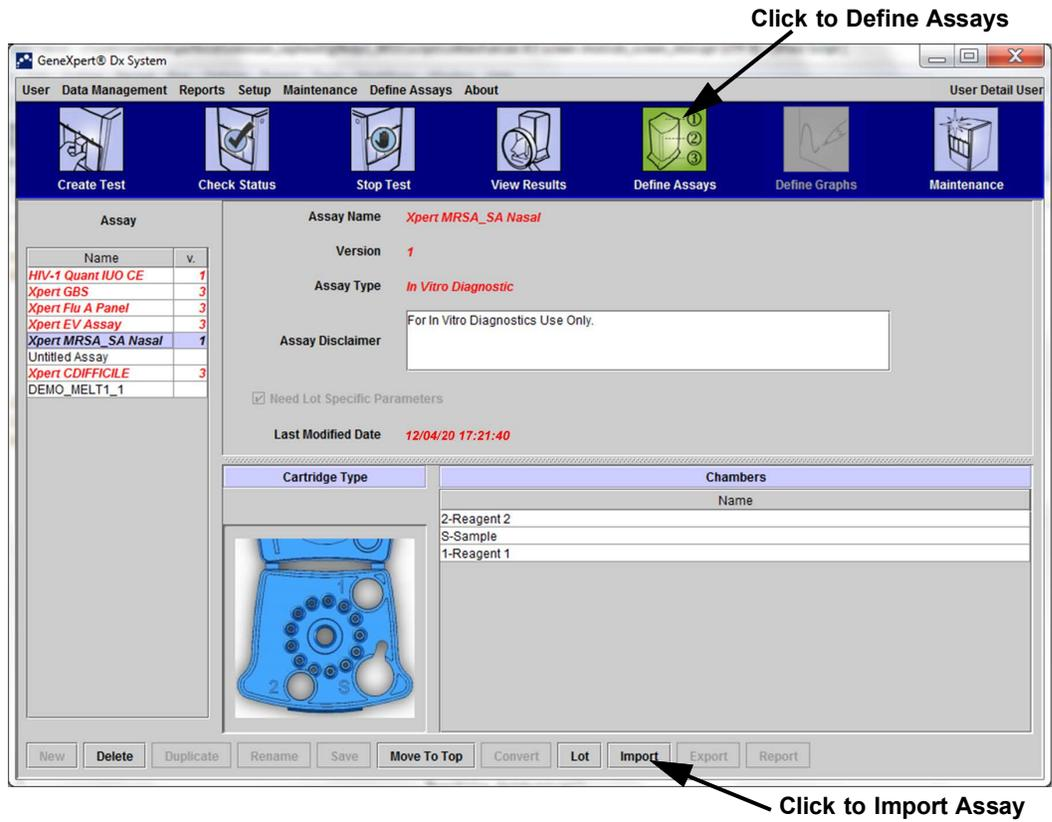
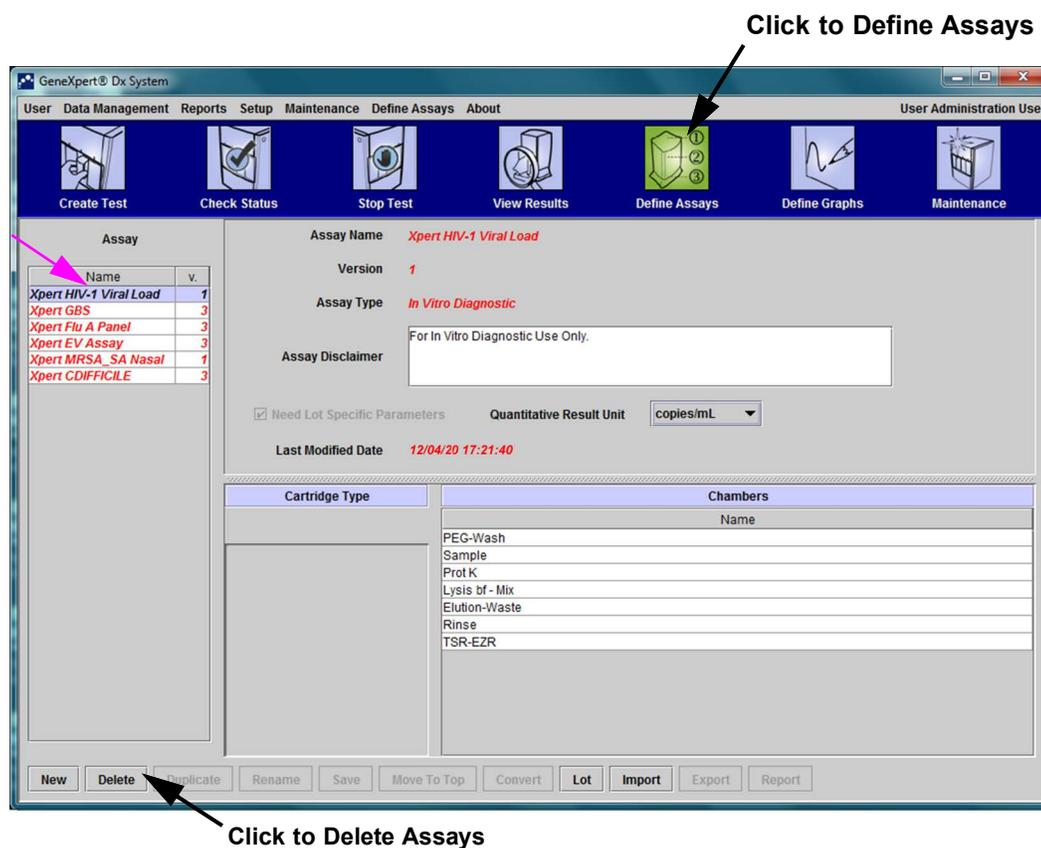

Figure 2-91. System—Define Assays Window (Detail User View)
Figure 2-93. GeneXpert Dx System—Define Assays Window (Administrator User View)
1. In the GeneXpert Dx System window, click **Define Assays** on the menu bar. The Define Assays window appears. Figure 2-93 shows the Define Assay window for the GeneXpert Dx system administrator. The window for Detail and Basic users has fewer functions (see Figure 2-91).
4. Navigate to the GeneXpert Systems folder. Locate and select the assay definition (.gxa/.nxa) file, and then click **Import**. The new assay name and version number appear in the Assay list (on the left side of the window) and details about the assay appear to the right of the list. See Figure 2-91.
After importing a quantitative assay, the Quantitative Result Unit can be changed. See Figure 2-93.
1. To delete an assay definition file, in the Define Assays window (see Figure 2-93), select the assay name in the Assay list (on the left side of the window), and then click **Delete**. A confirmation message appears.